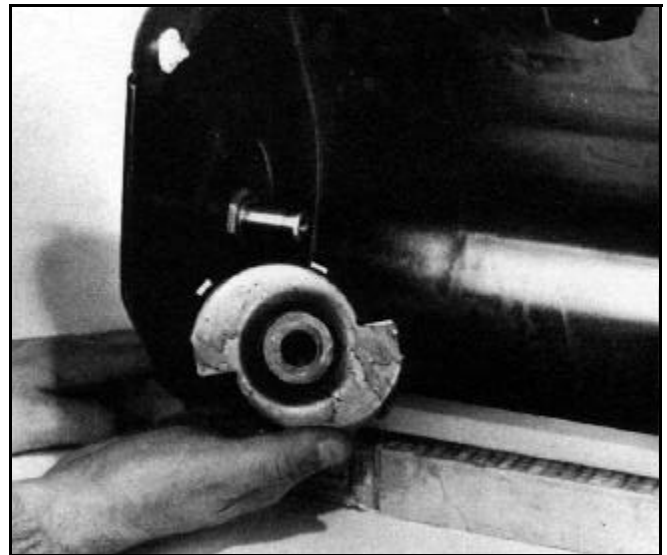

Figure 74
- A. Slide the end cap/bushing assembly off the shaft (Figure 74). Should the bushing surface appear to be "walled" out (oval shaped), replace both the end cap/bushing assembly and the shaft mounted in the R. H. (right hand) side plate.
2. Slide the end plate assembly off the shaft (Figure 74). Remove both screws retaining the rotor shaft to the R. H. side plate (Figure 77). If the bushing in the end plate is "wallowed" (oval shaped), replace the bushing, end cap, and rotor shaft.